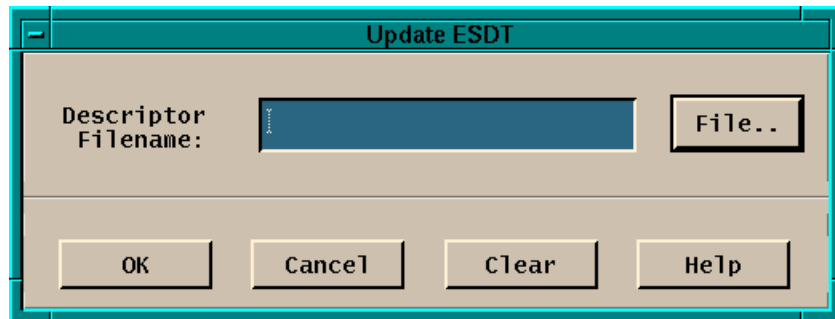

Figure 26.27.5-3. Science Data Server - Update Data Type Dialog
- **Update** opens the Update ESDT Dialog (see Figure 26.27.5-3) which is used to update a ESDT to the installed list of data types based upon input information. The SDSRV GUI provides the capability to update multiple ESDTs at one time. The Science Data Server needs to be running in **Maintenance mode** to accept this operation. Click on the **File...** button to display a list of descriptor filenames to choose from instead of typing them in. Multiple descriptor files can be selected. Click the **OK** button to update the data type. If no error messages appear, then the operation has been successfully completed. Click the **Cancel** button to close the dialog without performing an operation. Click the **Clear** button to start all over again the process of filling in new information. Click the **Help** button to display on-line help information.